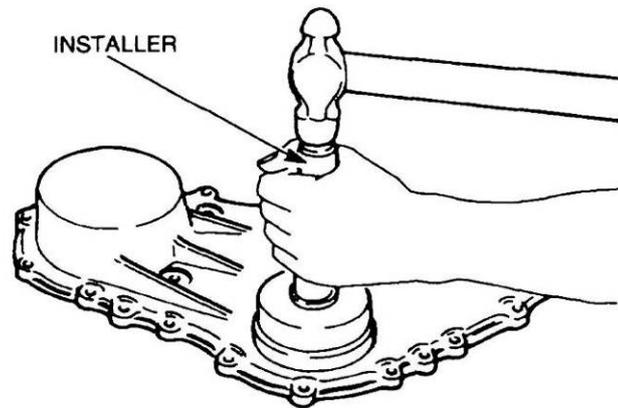

Figure 57 Installing the Timing Case Oil Seal
- eee.** Using special tool 18GA092 and a hammer, install a new oil seal into the timing cover (Figure 57). Smear the sealing lip with rubber grease and position a new gasket on the timing cover using the timing cover retaining bolts to hold the gasket in place. Install the timing cover ensuring that the gasket is correctly aligned and the sealing lip on the seal is not distorted.